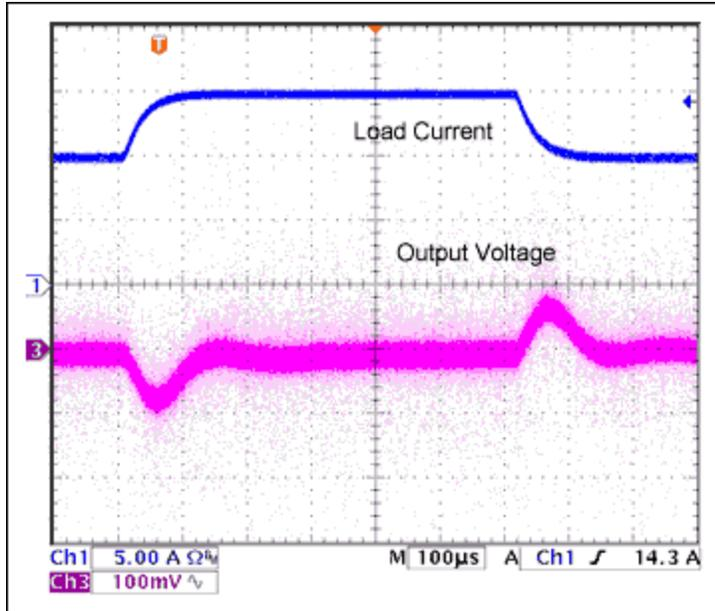

Figure 4. Output voltage deviation for step load increase and decrease. Load current slew rate is approximately $0.1/\mu\text{S}$.
2. Transient Response (**Figure 4**), and